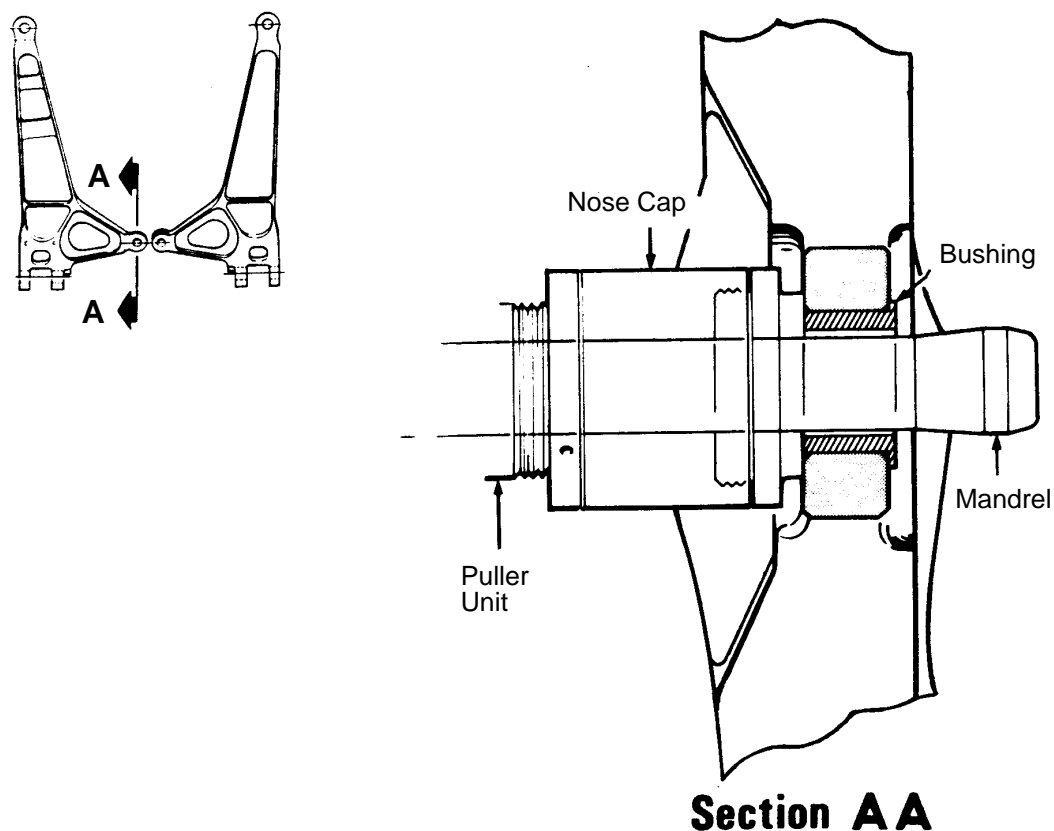

Figure 7 - Installation of DSC 401 Bushing
5.4.3.1 Install DSC 401 bushings as follows (see Figure 7):
- Step 1. Insert a DSC 401 bushing into the lug. The flange on the bushing must be located on the side shown in Figure 7.